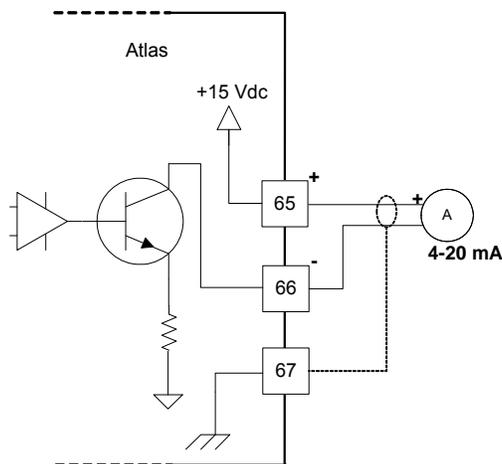

Figure 4-7. Analog Output Interface to the SmartCore Board
- Refer to Figure 4-7 for analog output wiring.